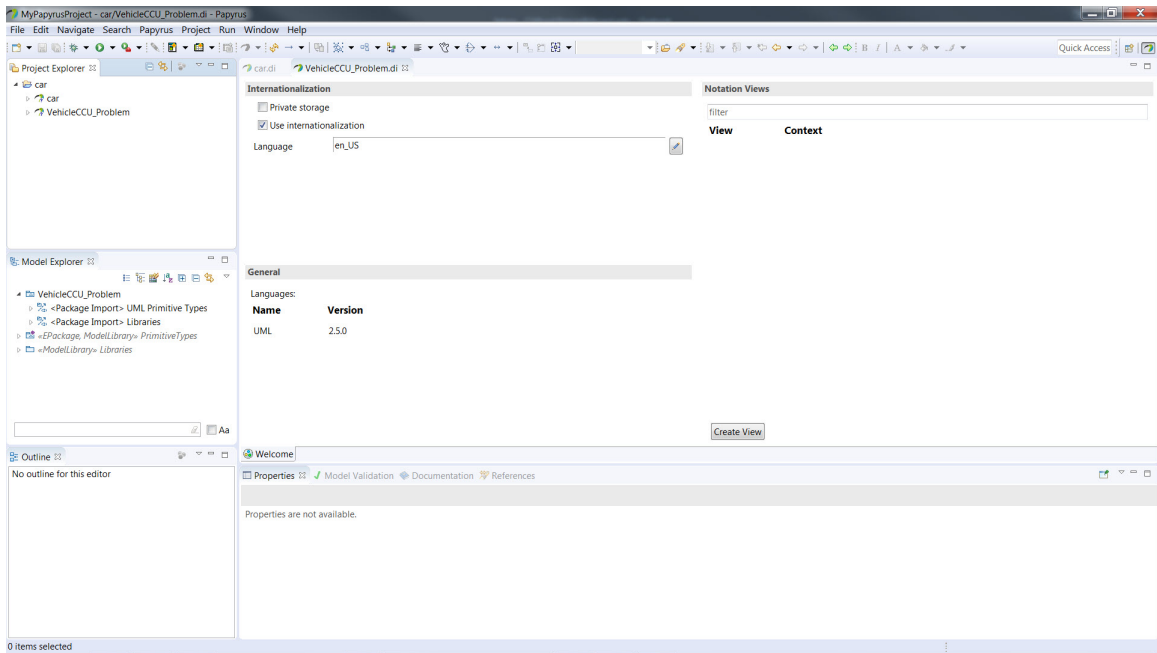
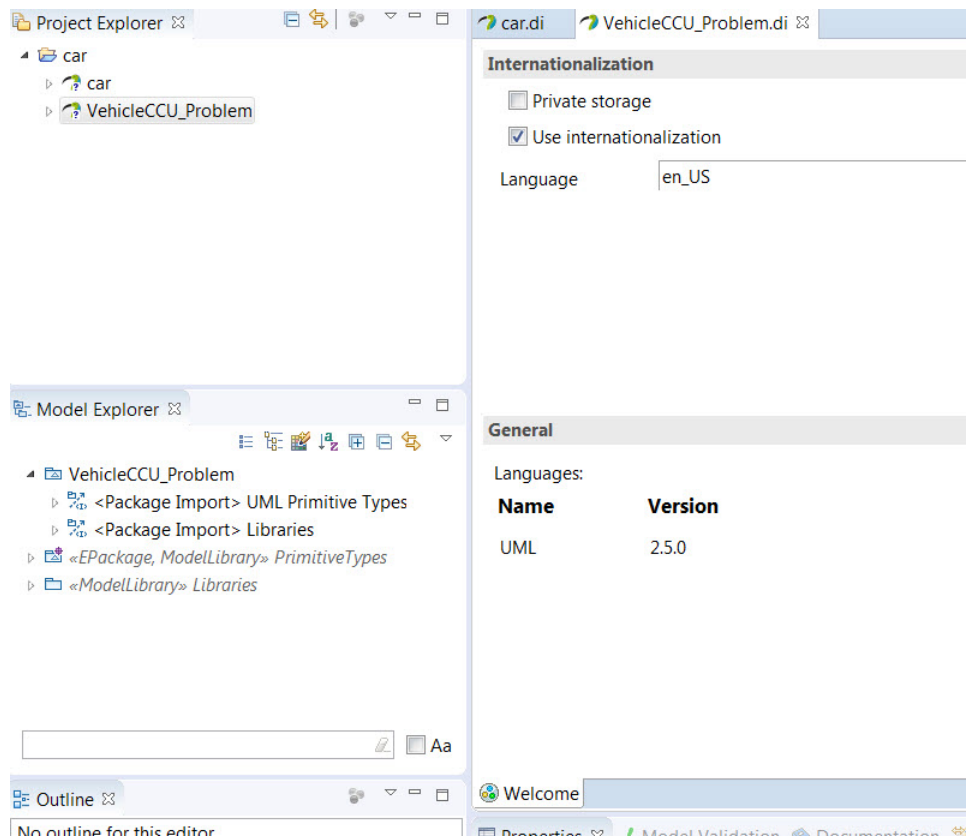

Figure 6: Vehicle CCU Problem Model
Figure 7: Vehicle CCU in Model Explorer
6. Your screen should now look like figure 6. You see that in the *Project Explorer* window we have the *car* folder with a car model and the model we created called *VehicleCCU_Problem*. The *Model Explorer* window should be showing the top level folder of our *VehicleCCU_Problem* model that we just created (figure 7). If it does not then double-click on the *VehicleCCU_Problem* in the *Project Explorer* window OR select the *VehicleCCU_Problem* tab in the main window.